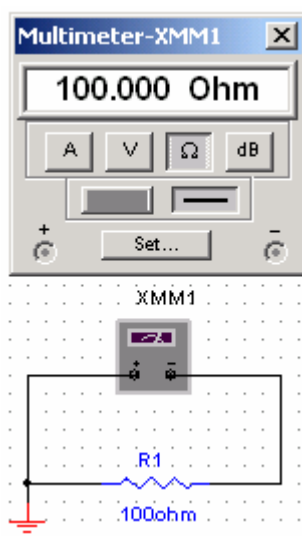

Figure 2: Measuring resistance
1. Build the circuit of Figure 2 using *Multisim Electronics Workbench*. Connect a multimeter between the terminals of resistor and set it to read resistance. Select $R_1=100\Omega$. Click the **Simulation Switch** to run analysis. Record the value of resistance R_1 in Table 3.